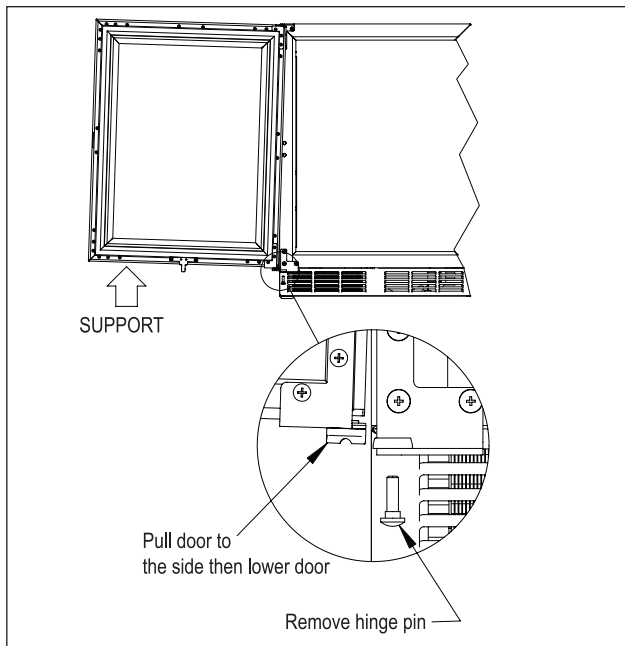

Figure 7. Door Removal
1). Support the door in the open position as shown in Fig. 7 on page 9. Remove the hinge pin.